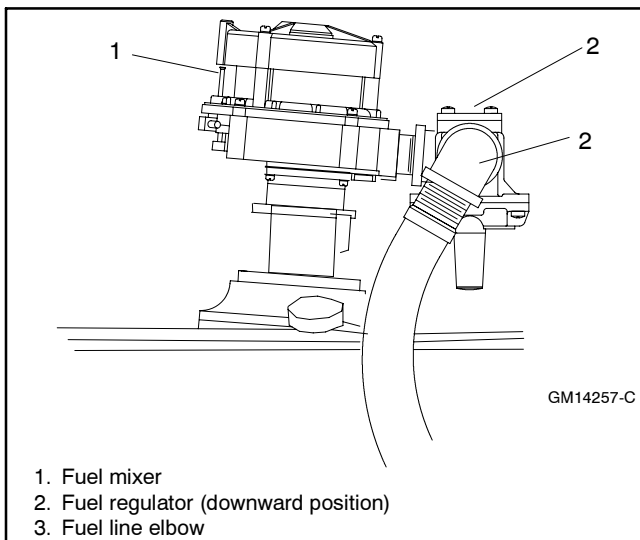

Figure 7-30 Fuel Mixer, Typical
- d. Place the gas mixer on the throttle with the existing gasket and install the four screws. See Figure 7-30.
- a. Rotate the fuel regulator to a downward pointing position as shown in Figure 7-30.